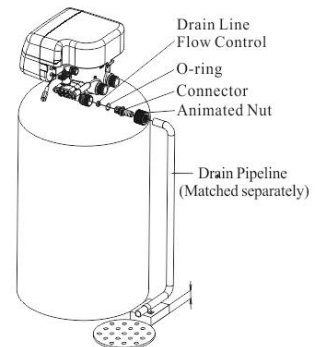

Figure 8
④ Install leakage sensors
⑤ Install drain pipeline
- a. As the Figure 8 shows, put the DLFC into the drain outlet.
- e. Locate the drain hose well as the Figure 8 shows.
●Be sure not connect drain with sewer directly, and leave a certain space between them (Such as showed in the Figure 8.), avoid wastewater being absorbed to the water treatment equipment.